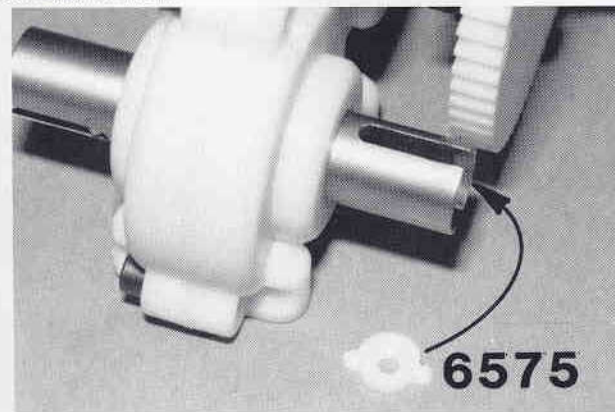
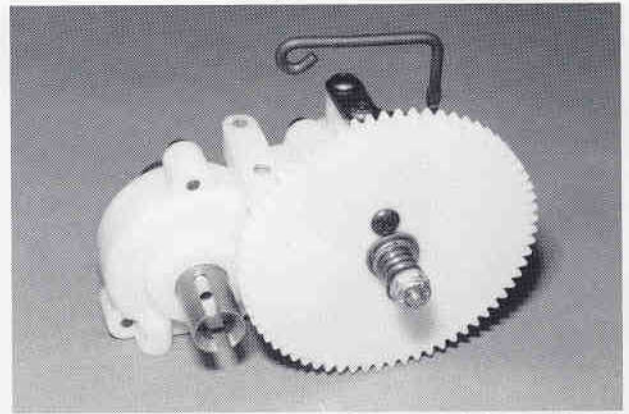

**Fig. 98**
**Fig. 99**
□ **Figs. 98 & 99** Open bag 7-15 and remove the #7663 66 tooth 32 pitch spur gear. Go back to bag F and locate the two #6568 4-40 x 3/16" BHCScrews. If you look at the spur gear you will see one side has a recessed center section and the other side is flat all the way across. Mount the spur gear on the hub with the recessed side contacting the hub, flat side out. Your installed spur gear should look like fig. 99 when properly installed and secured.